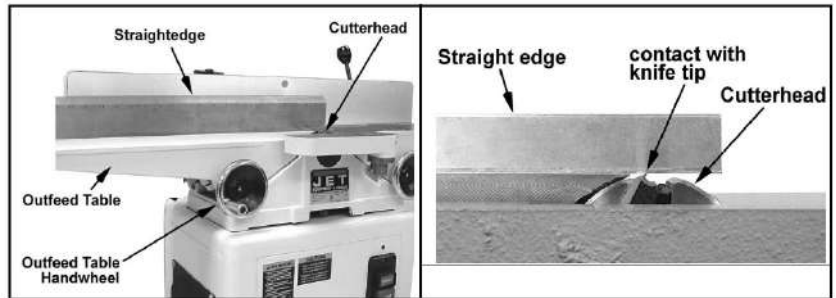

Fig 28
3. Place a straightedge upon the outfeed table and extend it over the cutterhead (Fig 28).
6. Raise or lower the *outfeed table* until the *straight edge* contacts the *knife tip*, as shown in Fig 28. Using the drive belt or pulley, rock the cutterhead slightly to make sure the apex of the knife is just barely contacting the *straight edge*.